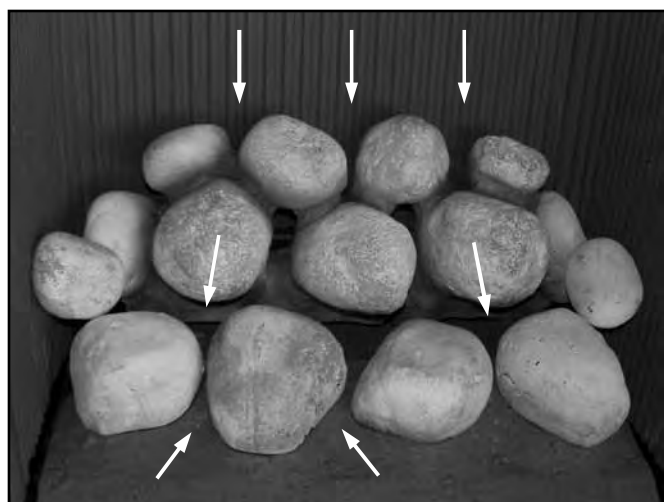

Figure 63: Rock Placement of Seven Small Rocks.
5. Addition the seven (7) small rocks. These can be added in some fashion like what's shown in Figures 63 & 64 with three (3) on the top row with the larger one in the center and two (2) smaller ones on either side.